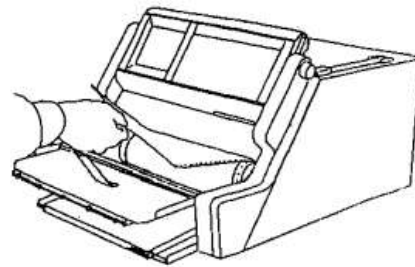

Fig. 3.1-5
- (3) Pass the chart paper end under the drum along the guide plate and press the feed key to rotate the drum. Bring the chart paper up to the top of the drum. (Refer to Fig. 3.1-5)